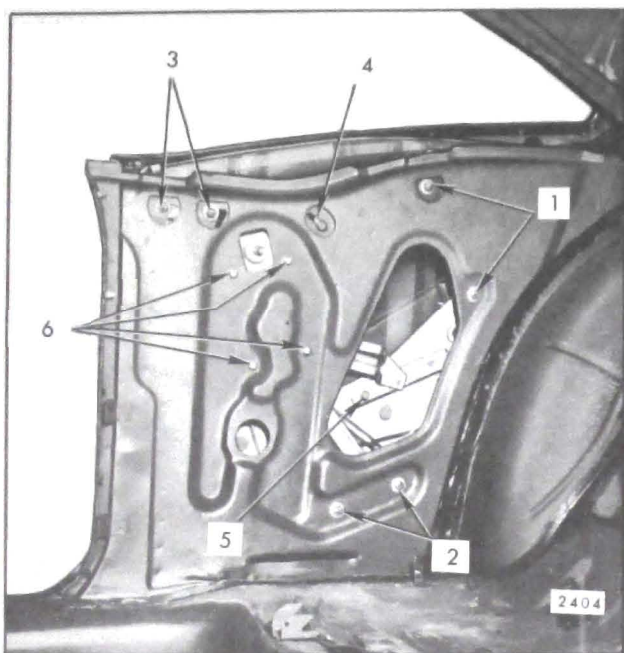
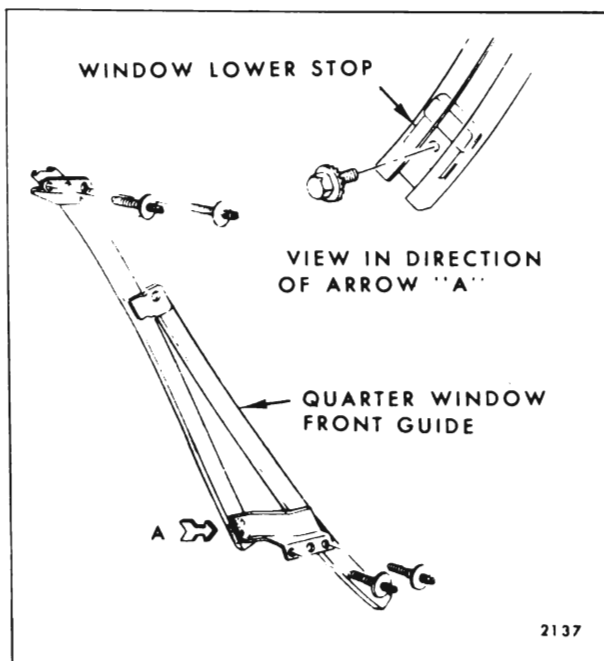

Fig. 7-43—Rear Quarter Hardware - "B-C" Coupe Styles
Fig. 7-44—Rear Quarter Window Lower Stop Adjustment - Styles so Equipped
1. Rear quarter window up-travel is determined by position of the window up stop "4" (Fig. 7-43). To change the window upper limits, loosen the stop attaching bolt and position the stop as desired.
2. Fore or aft position of the window is determined by the position of the front and rear guides. To adjust the window, loosen the front and rear guide adjusting stud nuts "1", "2" and "3" (Fig. 7-43) and reposition the window as required.
3. In or out adjustment of the window assembly, or only the top of the window, can be obtained by utilizing the front and rear guide adjusting studs (Fig. 7-43). To reposition the window in or out, adjust the guide upper and lower adjusting studs in the same direction. To adjust the top of the window in or out, adjust the lower adjusting studs in the opposite direction of the upper studs.
4. To control the down-travel of the quarter window (fully lowered position), adjust the down travel stop. The down stop is located in the sash channel cam on "B-C 67" and "C-57" styles ("5", Fig. 7-43), and in the front guide on the remaining "B-C" hardtop styles as shown in Figure 7-44.
- b. Remove window regulator attaching bolts "6", (Fig. 7-43).
- a. Remove regulator attaching bolts "6" (Fig. 7-43).
NOTE: On styles with down stop in cam ("5", Fig. 7-43), remove stop prior to disengaging regulator roller.
- With window in full-up position, remove front guide upper and lower adjusting stud nuts ("2" and "3", Fig. 7-43).
NOTE: The rear channel of the front guide of most styles is equipped with an adjustable lower stop to control height of quarter window in the lowered position (see Fig. 7-44).
| 2. Front Guide Lower Adjusting Studs and Nuts | 5. Window Lower Stop ("B-C-67" and "C-57" Styles Only - See Figure 7-44 for remaining Coupe Styles) |